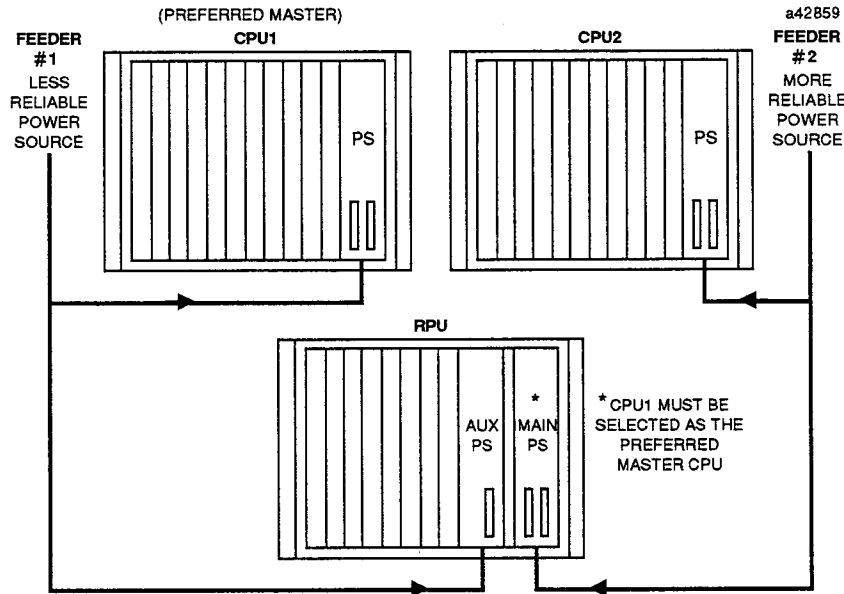

Figure 2-1. Connections for Dual Power Feeder Application of RPU
- Using the RPU keyswitch, select CPU1 or CPU2 as the preferred Master CPU (figure 2.1 assumes CPU1 has been selected).